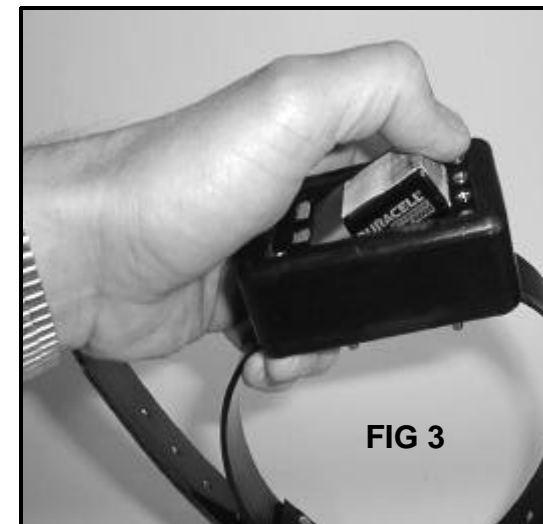
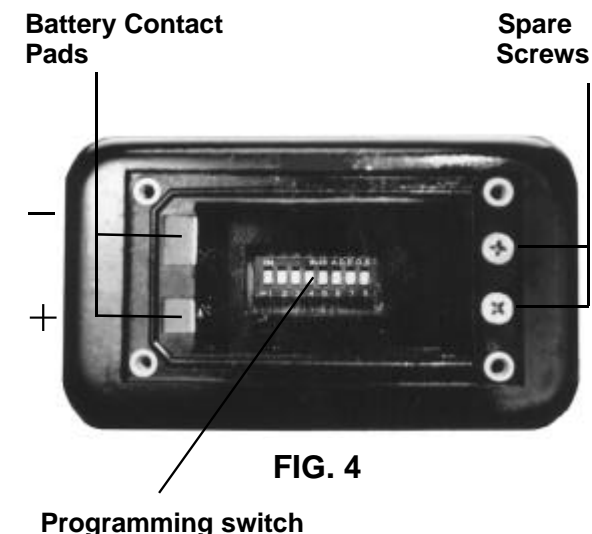

FIG 3
FIG. 4
- 3.) We need to stress the fact that you install the battery as per instructions. (See Fig. 3) Terminal end (snap end) first then push on the rear until it's seated in the compartment. The battery pads are very reliable and should last indefinitely if you follow the instructions. Putting the battery straight in will fold over the nickle foil and require repairs.
- 1) Install a fresh Duracell brand 9 volt alkaline battery as per instructions, see figure 3. You can make a pull tab out of nylon reinforced packaging tape available at any discount store. This will make it much easier to remove the battery when it's time to replace it.
After removing the battery, the programming switch is directly under it. (see Fig. 4) The switch is labeled 1 through 6 with "ON" printed in the upper left hand corner. The six switches can be manipulated with the same phillips screwdriver. Note: The switches slide and not toggle or rock. All units are shipped programmed as follows: medium sensitivity, medium shock time and low shock voltage. To change the programming to better suit your needs, refer to the programming instructions on the underside of the cover plate. Reinsert a Duracell 9 volt battery, terminal end first, then push down on the rear until seated in the compartment. (see Fig. 3) The bottom plate must have all four screws installed to be water tight.
SHOWN IN FIGURE 3.